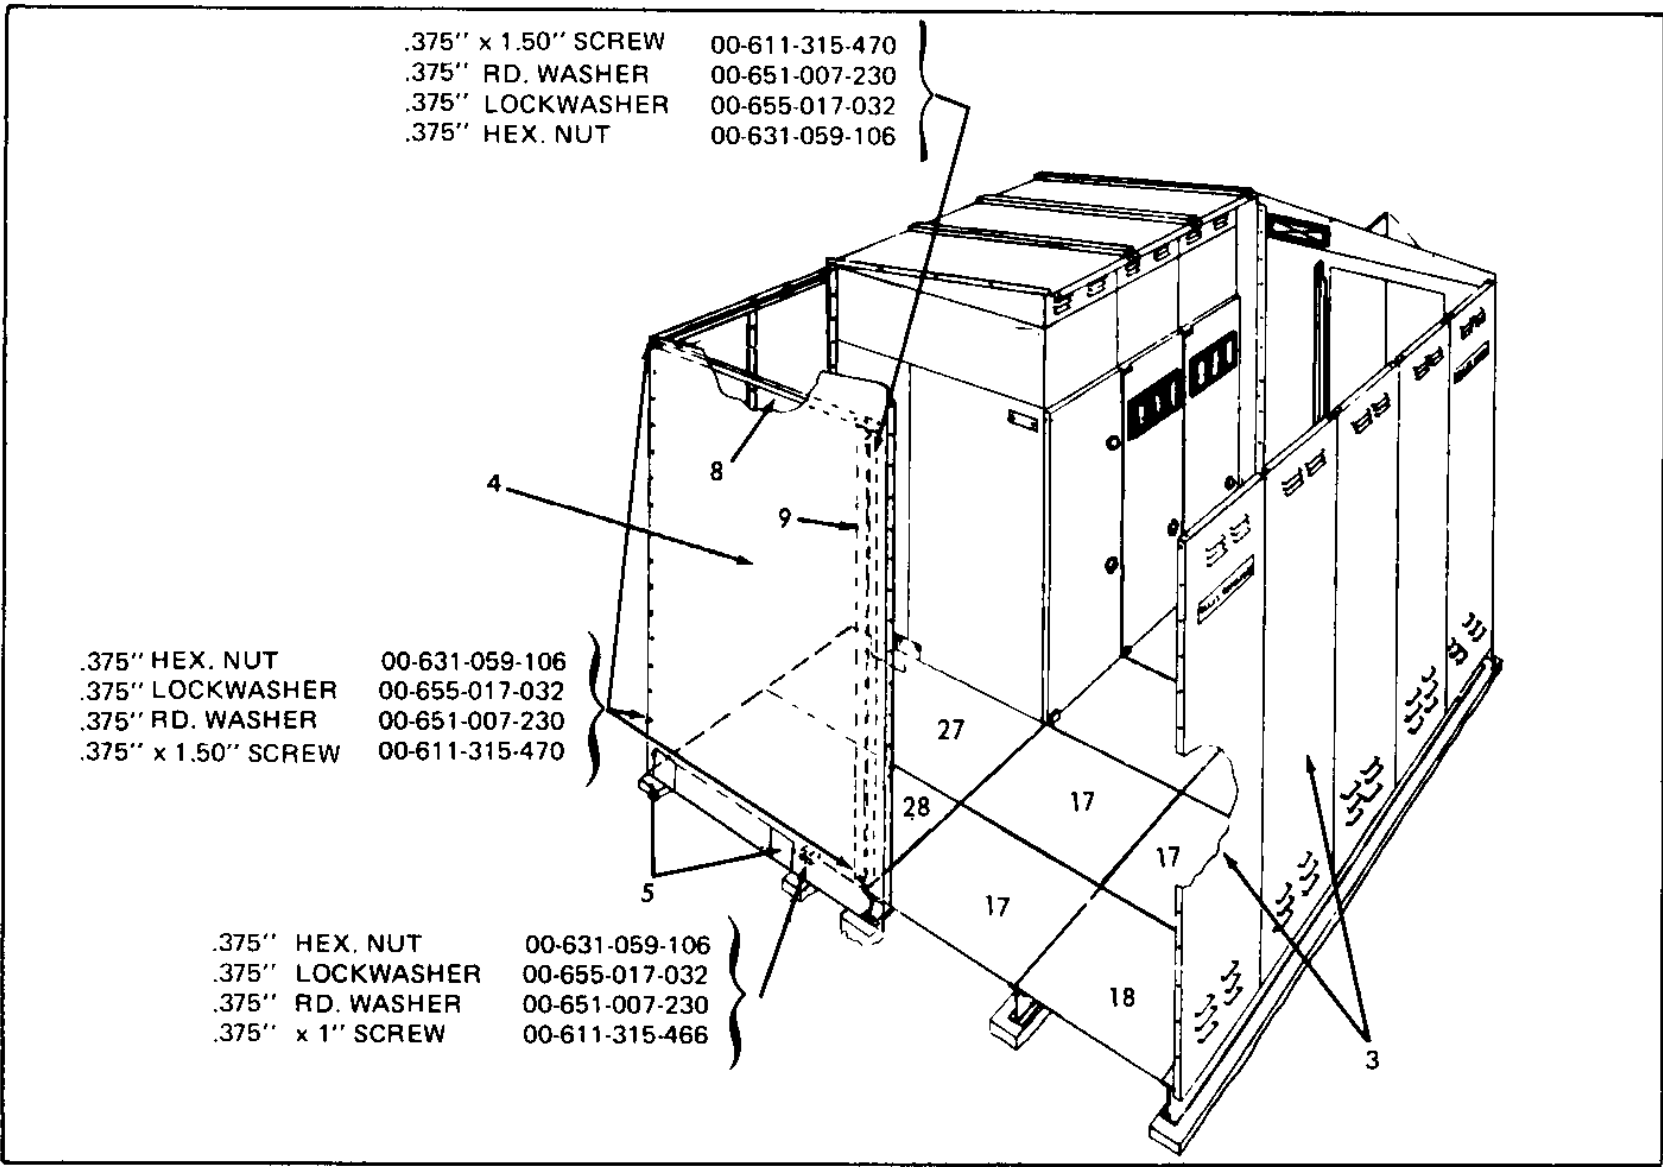

Figure 38. End Cover Installation (5 KV) – Single Aisle with Work Space
7. Bolt plates (3) together, to switchgear unit and to beam (1).
9. Attach angles (10) to ends of beams.
10. See Figure 38. Install angles (8 and 9) at the end of the work space. Secure the angles together with 00-615-331-466 flat head screws.
11. Install end plate (4) and attach it to plate
(3) and angles (8), (9), and (10).
12. Install floor plates (17 and 18) in the same arrangement as that for single aisle layouts (see Figure 26). Install floor plates (27 and 28) as shown in Figure 38. Install cover (5).